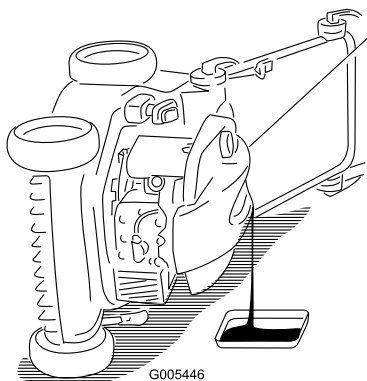

Figure 22
3. Tip the mower onto its side, with the air filter up, to drain the used oil out through the oil fill tube (Figure 22).